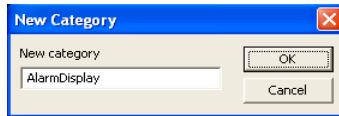

Figure 255. New Category
3. Click **Categories** tab and then click **Add**. The **New Category** dialog appears as shown in Figure 255.